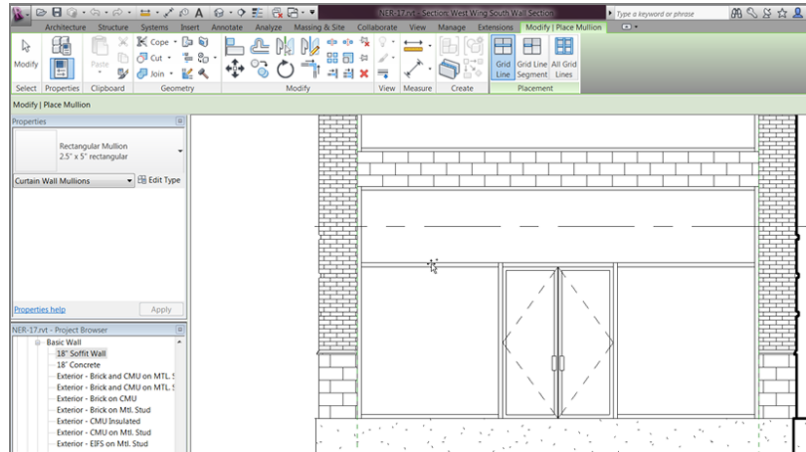

FIGURE 16.36: Place the 2.5" × 5" (64mm × 127mm) rectangular mullion above the door.
4. Pick the grid above the door, as shown in Figure 16.36.